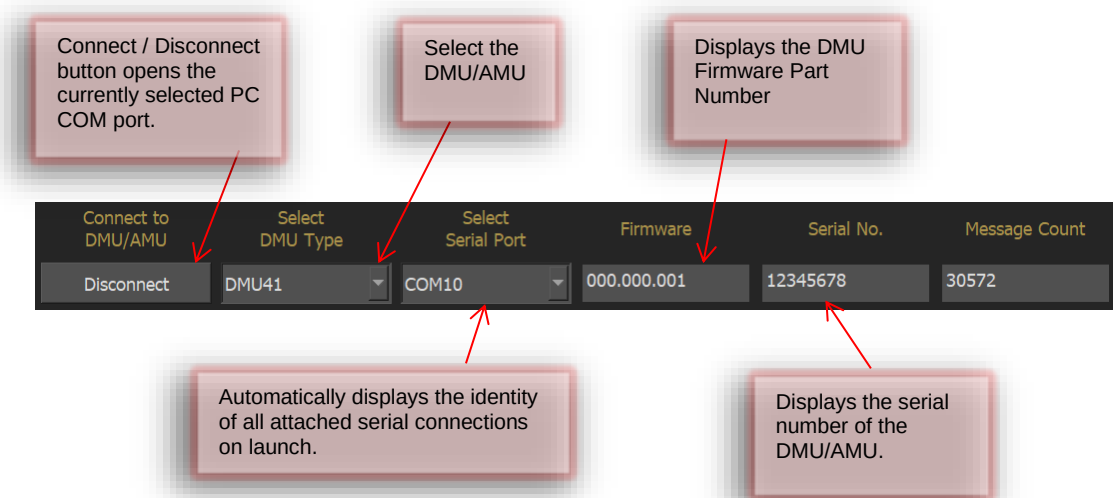

Figure 7: Common Controls
3. Select the required DMU type from the 'Select DMU Type' drop down menu, refer to Figure 7.
The above steps commence validation of the DMU connection and ensures the functionality of all the tab options is available. Once the DMU connection is validated the Firmware and Serial No. is displayed (as shown in Figure 7).